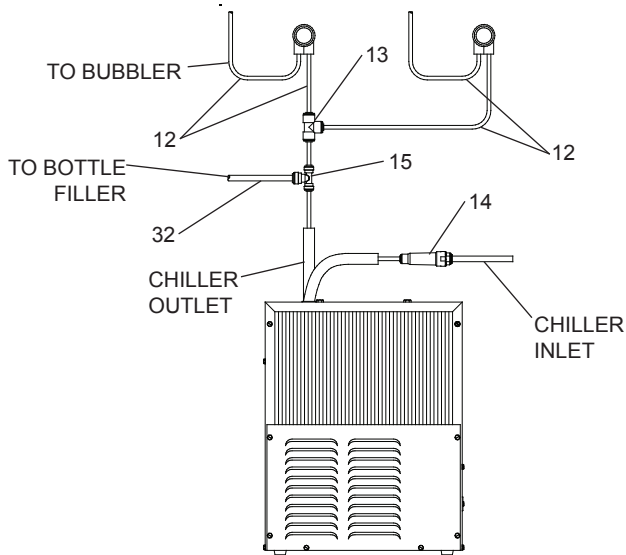

Figure 2 - EZWS-ERPBM28K Tube Routing
- 3a. **(For EZWS-ERPBM28K)** Install strainer on the input tube to the chiller (Fig. 2).